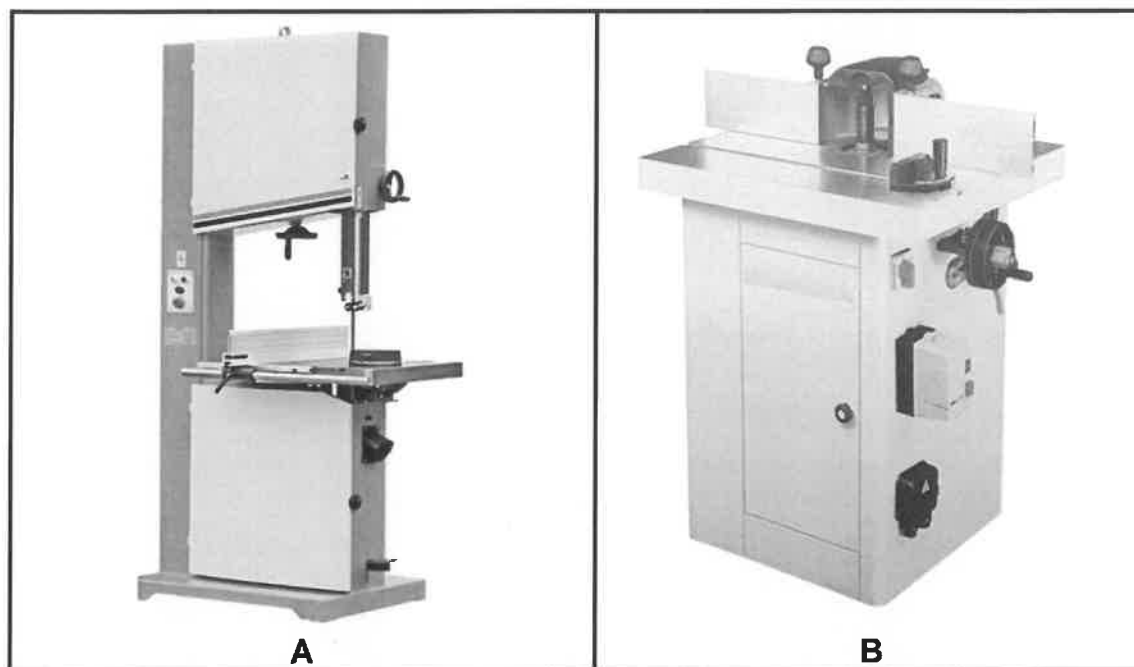

FIGURE 4.2
- (1)
4.2 FIGURE 4.2 below shows different woodworking machines.